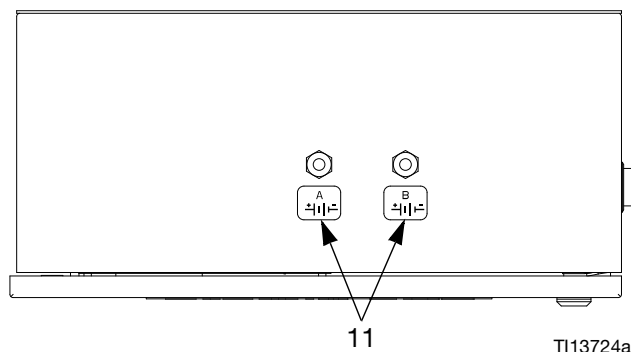

FIG. 4. Apply Labels at Top of EasyKey
2. Bring the user-provided power cable (PC) from the hazardous area into the non-hazardous area. Follow all local and national codes for flameproof, explosion proof, or increased safety protection.
5. Apply the A and B labels (11) as shown in FIG. 4. Install the strain relief (12) as shown in FIG. 5.